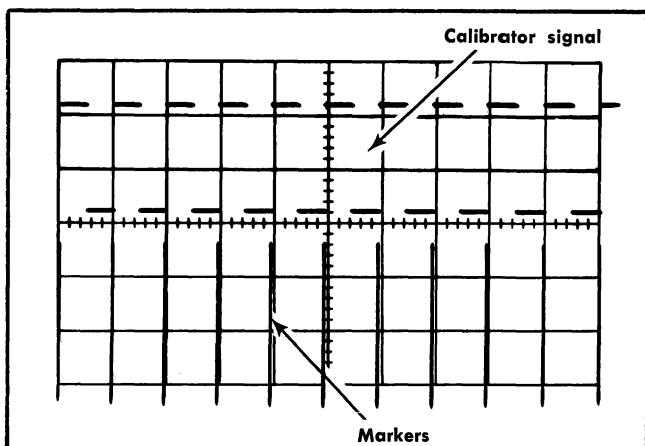

Fig. 5-14. Typical CRT display showing correct calibrator repetition rate.
- f. Position the test oscilloscope display so the tips of the markers fall just below the rising portions of the square wave (see Fig. 5-14).
- g. CHECK—For one cycle of calibrator waveform for each marker (see Fig. 5-14).